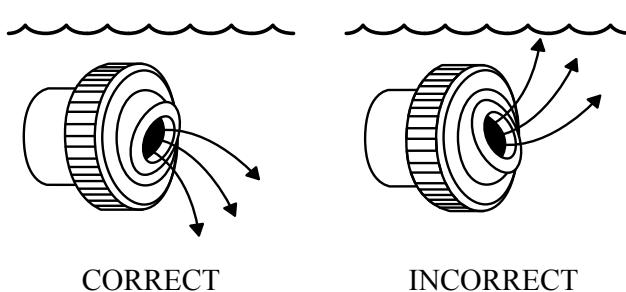

Figure 10
10. Turn the filtration system return jets towards the bottom of the pool. It does not affect the circulation of the water in the pool, on the contrary it helps reduce the consumption of the chemical additives. This is necessary to ensure maximum level of security during the functioning of the alarm. (See Figure 10) The installation is now complete. The alarm MUST be tested.